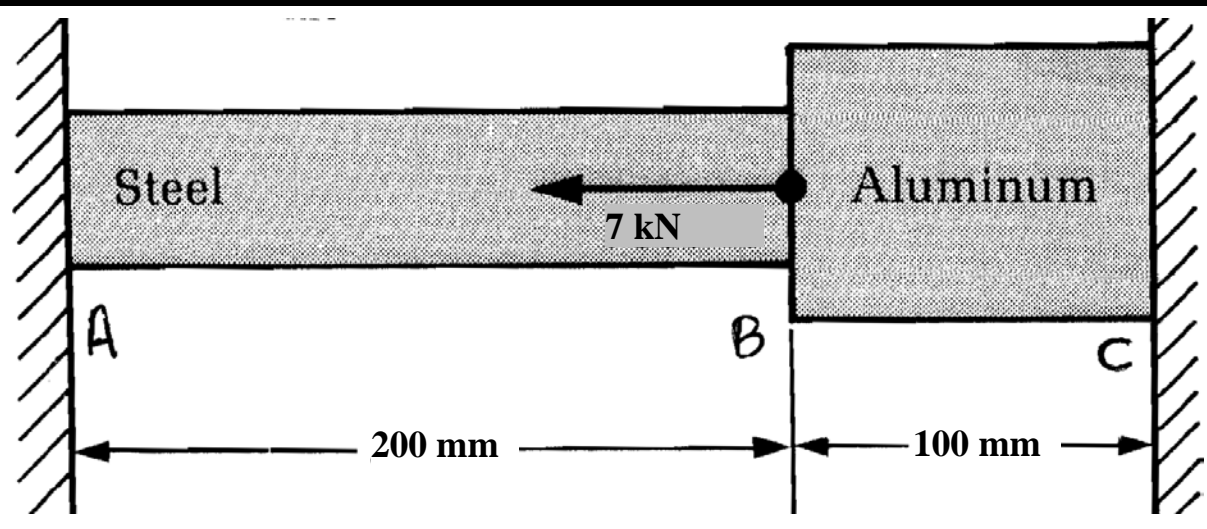

Fig. P5
- 5) Determine the stresses in the steel and aluminum rods shown in Fig. P5. For steel, $A = 200$ mm², $E = 210$ GPa, and for aluminum, $A = 400$ mm², $E = 70$ GPa. [Secs. 4.4 & 4.5] (20 pts.)